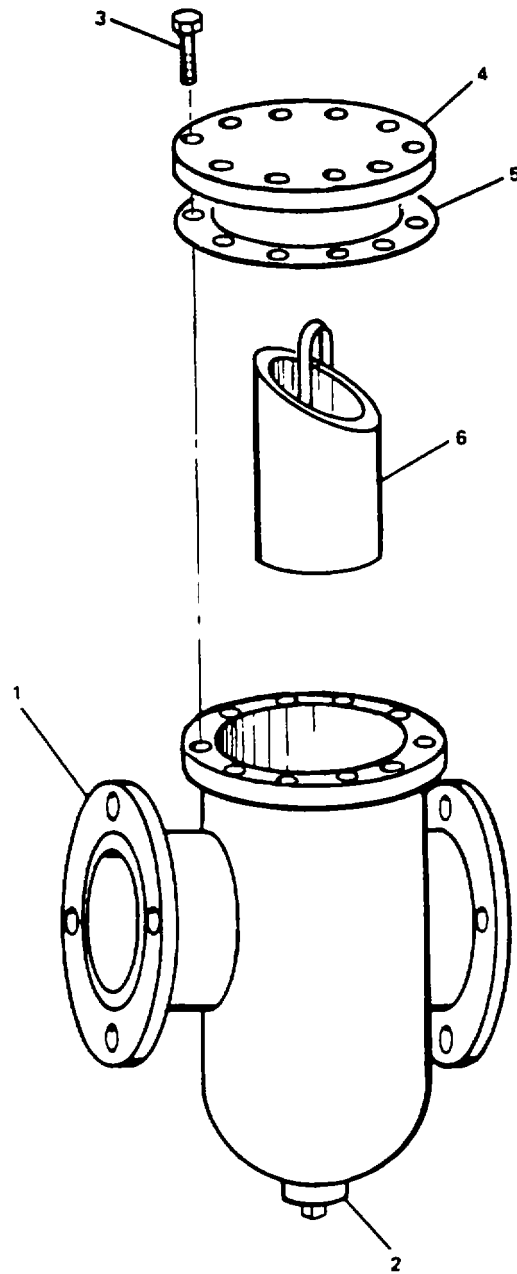

Figure 2-104. Repair 8-Inch Simplex Strainer.
- a. Place utility pail under strainer (1, Figure 2-104) and remove plug (2).
- b. Replace plug (2) after draining strainer.
- c. Remove hex head capscrews (3).
- d. Remove cover (4).
- e. Remove gasket (5) and discard.
- f. Remove strainer element (6).